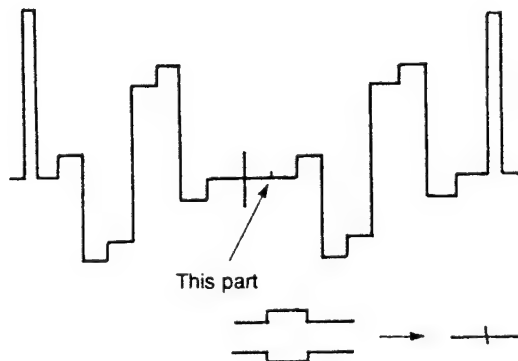

Fig. 2-4.
3. As shown in Fig. 2-4, adjust the R-Y CLAMP OFFSET data so that the pedestal and clamp offset pulse level becomes equal.